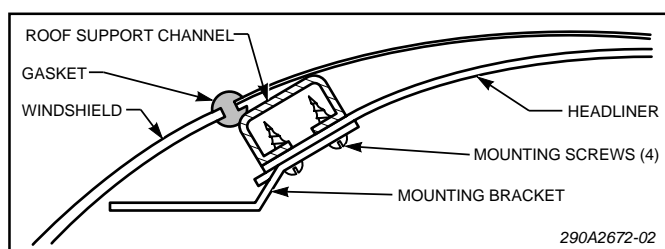

Figure 1.
2. See figure 1. Locate the roof support channel under the headliner. Using the mounting bracket as a template, align four mounting holes with the support channel(s) and mark four drill position marks on the mounting surface.